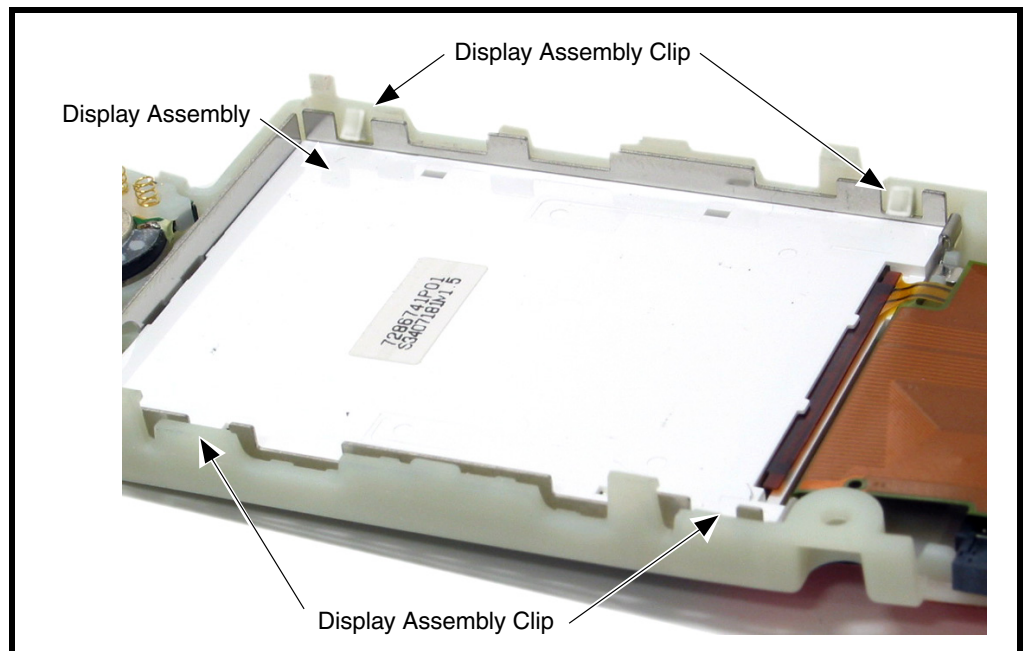

Figure 13. Removing the Display Assembly
3. Release the display assembly clips on each side of the display assembly as shown in Figure 13.